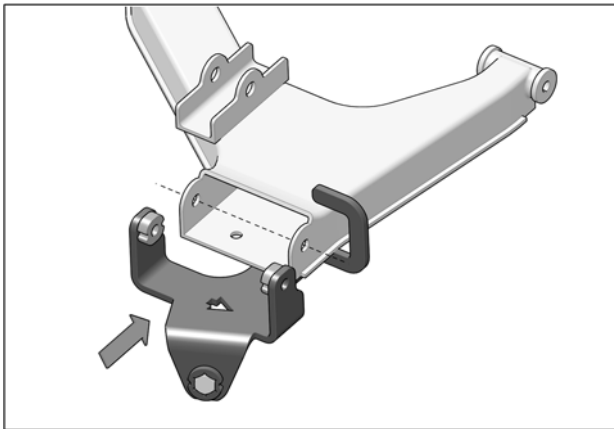

Fig. 7
- Slide anchor bracket towards suspension arm and align anchor bracket bolt holes with suspension arm bolt holes. See Fig. 7